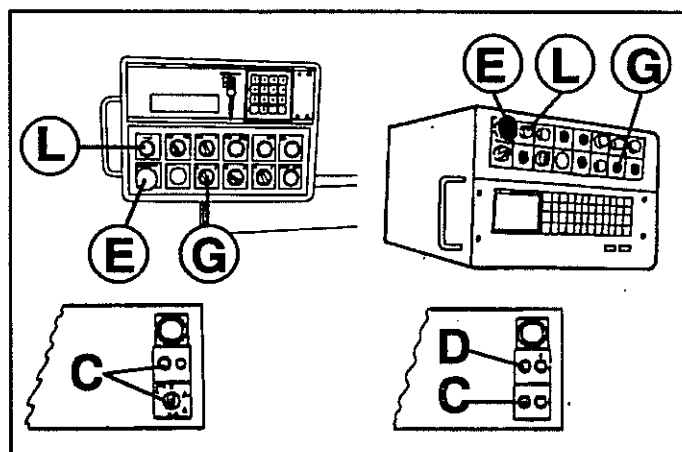

Fig.3.11
- 1- Return the blade lifting selector (G) to the "low blade" starting position (fig.3.11).
- 4- Press the re-set button (D): the carriage automatically returns to the starting position.
- 5- Using switch (C), switch on the main motor and the scorer
- 7- Press the lighted start cycle button (L)